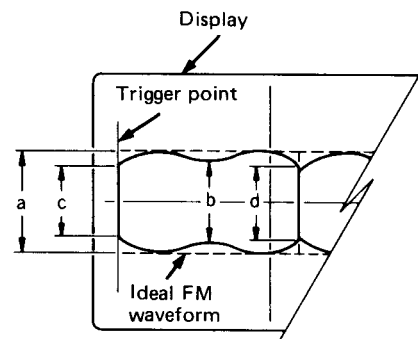

Fig. 2-7-1 FM waveform (standard video FM waveform)
1. Play back the alignment tape MH-C2 and adjust the tracking control to obtain the maximum FM waveform. At this time, confirm that the waveform is the standard video FM waveform as shown in Fig. 2-7-1, namely, [a] (maximum output), [b] (minimum output at the center of waveform), [c] (minimum output at the drum intake – input portion), and [d] (minimum output at the drum outlet – output portion) are in the relationship shown below.
1. Confirm that the FM waveform recorded by the subject deck satisfies the standard of video FM waveform shown in Fig. 2-7-1. At the same time, also confirm that the switching point does not come off.